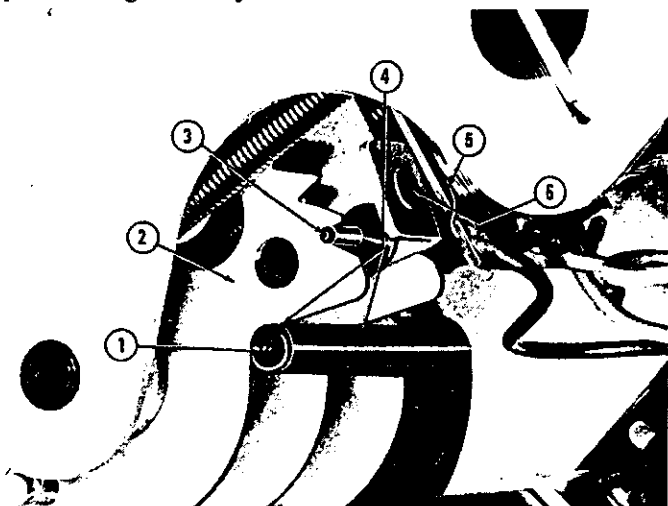

Fig. 10. PLAYRAK ADJUSTMENT
(1) When the studs, on the lower end of the two "lever, stud, and hub" assemblies, are engaged with the first tooth of their respective accumulator wheels, as shown in Figure 10, the "driver pin" of the cancel wheel should rest squarely against the lower edge of both accumulator wheels. Should this condition not exist examine the unit for bent pins or sprung frame. Correction should be made before proceeding with adjustments.
(2) Based on the condition required in (1) the "key switch and bracket" may be moved on its mounting point by loosening the two screws shown in Figure 10, to provide opening of its contacts as shown. The key switch actuator, mounted on the cancel wheel, should be only slightly on the flat portion of the tip of the key switch blade. The switch contacts should be open 1/32".